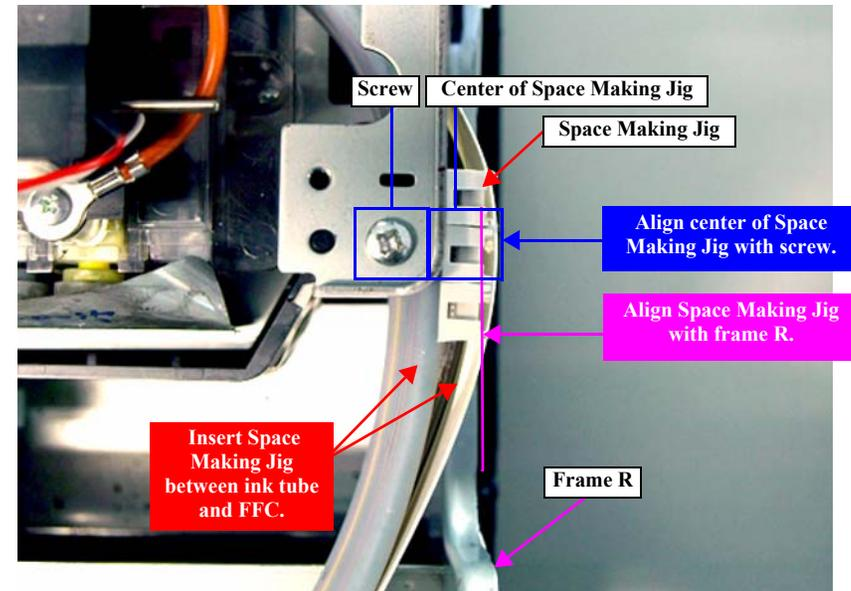

Figure 4-114. Attaching the Space Making Jig
12. Insert the “Space Making Jig” in the position shown in *Figure 4-114*.